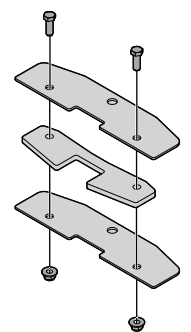

Figure 29
1. Stack top/bottom stop plates and center stop plate as shown in Figure 29. Secure with two hex head screws and two hex nuts.